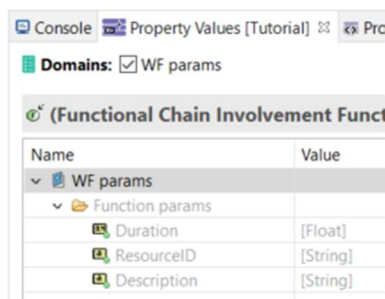

Figure 12 Property Values
- Close the Configuration PV tab and observe the parameters in the Property Values tab when clicking in a function (see Figure 12), a control node, or a link in the functional chain description.